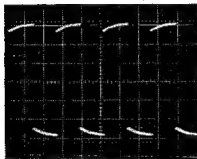

Figure 16.3 Over-compensation
- A trimmer can be adjusted through a hole in the compensation box to obtain optimum square-wave response, see figure 16.3, 16.4 and 16.5.